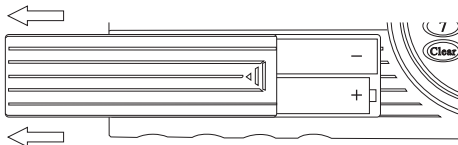

Figure 5 Removing the Compartment Cover
- Take out four AA batteries from inside the safe and remove the battery compartment cover (Figure 5, P.4), then install the batteries properly into the compartment and replace its cover.
Remove battery cover per Figure 5 and replace with new batteries properly. Place back battery cover.
Batteries installed incorrectly with wrong polarity placement or non-conformity batteries	Install the conformity batteries according to Figure 5